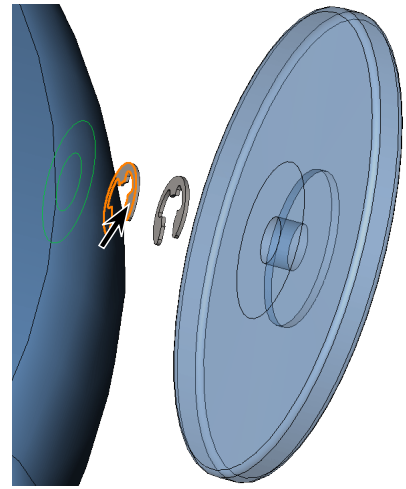

Fig. 17
Step 2. Use **Right arrow** key to rotate assembly to view **inside side face of E-Clip1**, Fig. 17.
Step 3. Click **inside face of E-Clip1**, Fig. 17.